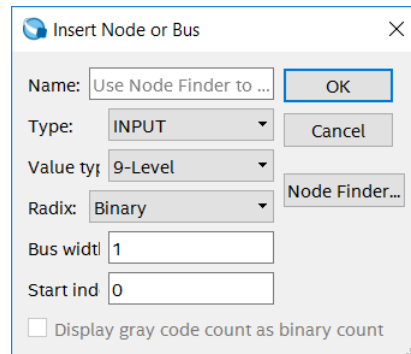
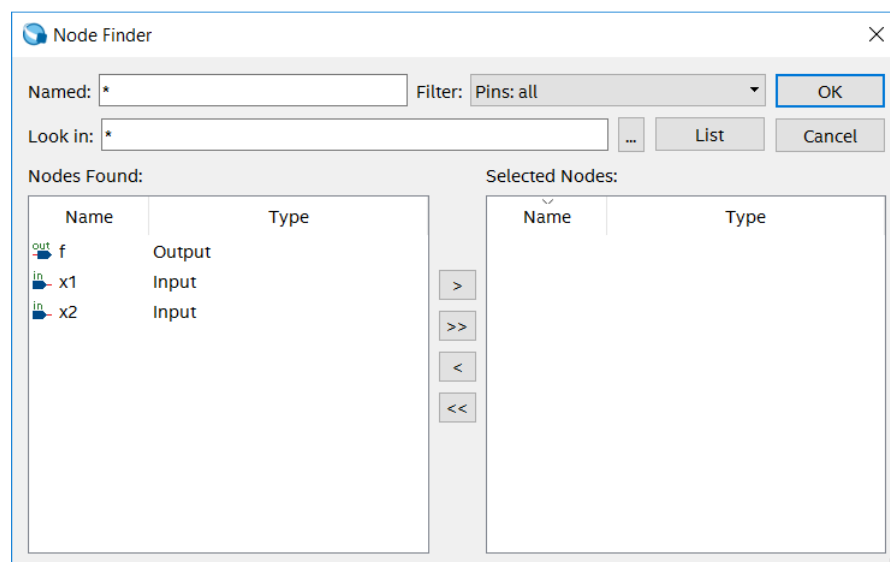

Figure 35. The Insert Node or Bus dialogue.
Figure 36. Selecting nodes to insert into the Waveform Editor.
- Next, we want to include the input and output nodes of the circuit to be simulated. Click **Edit > Insert > Insert Node or Bus** to open the window in Figure 35. It is possible to type the name of a signal (pin) into the Name box, or use the Node Finder to search your project for the signals. Click on the button labeled **Node Finder** to open the window in Figure 36. The Node Finder utility has a filter used to indicate what type of
Click on the *x1* signal in the Nodes Found box in Figure 36, and then click the > sign to add it to the Selected Nodes box on the right side of the figure. Do the same for *x2* and *f*. Click OK to close the Node Finder window, and then click OK in the window of Figure 35. This leaves a fully displayed Waveform Editor window, as shown in Figure 37. If you did not select the nodes in the same order as displayed in Figure 37, it is possible to rearrange them. To move a waveform up or down in the Waveform Editor window, click within the node's row (i.e. on its name, icon, or value) and drag it up or down in the Waveform Editor.